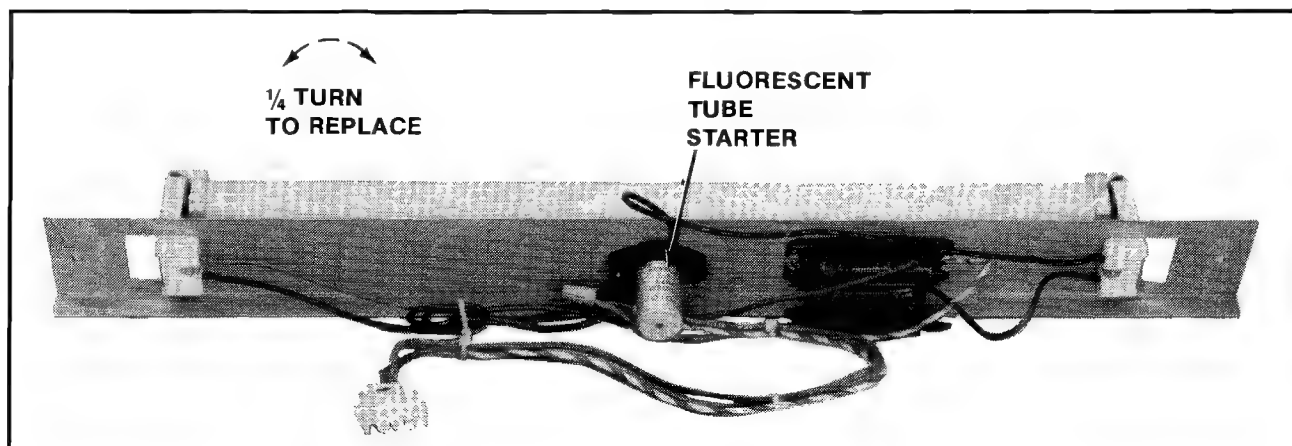

Figure 22 Replacing fluorescent starter — Upright game
- Replacing the fluorescent tube starter. See Figure 22.